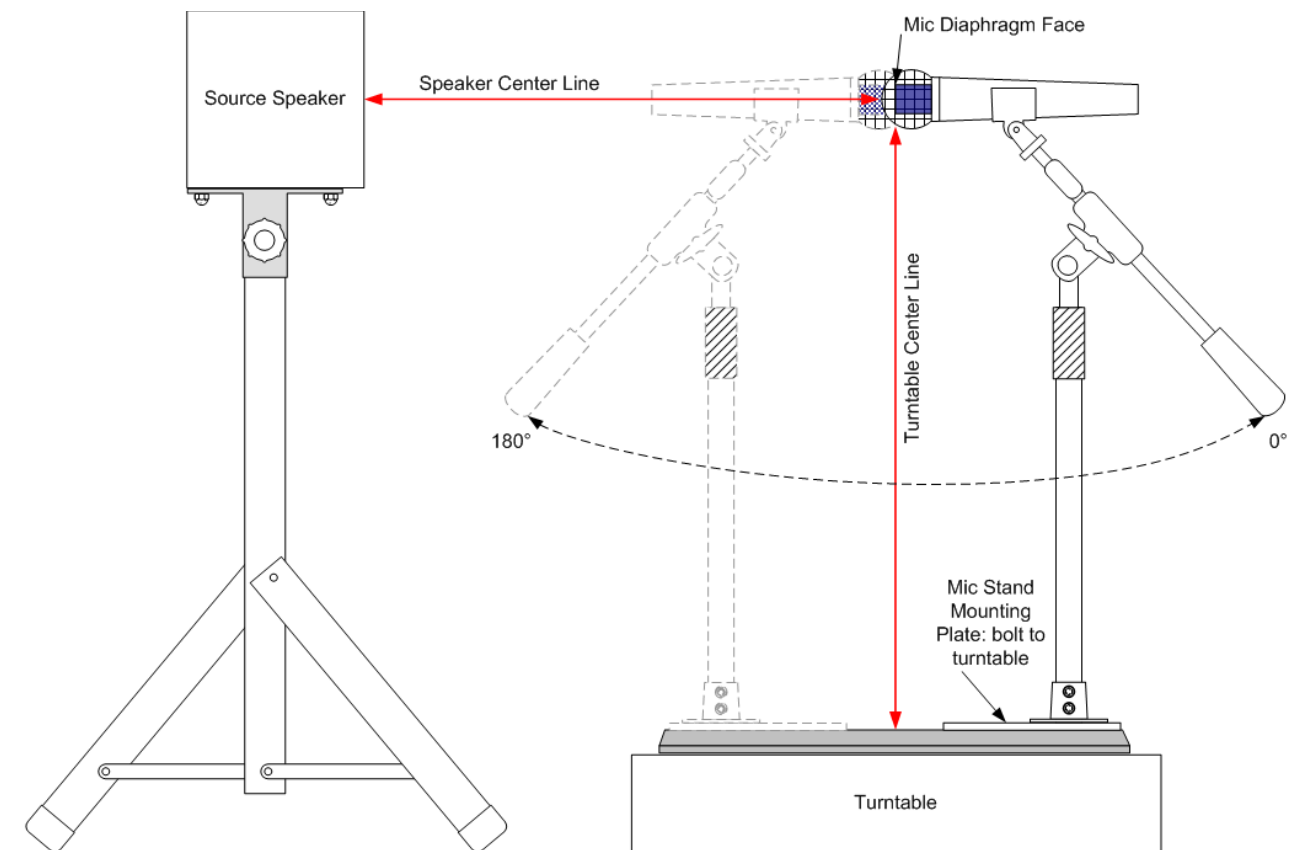
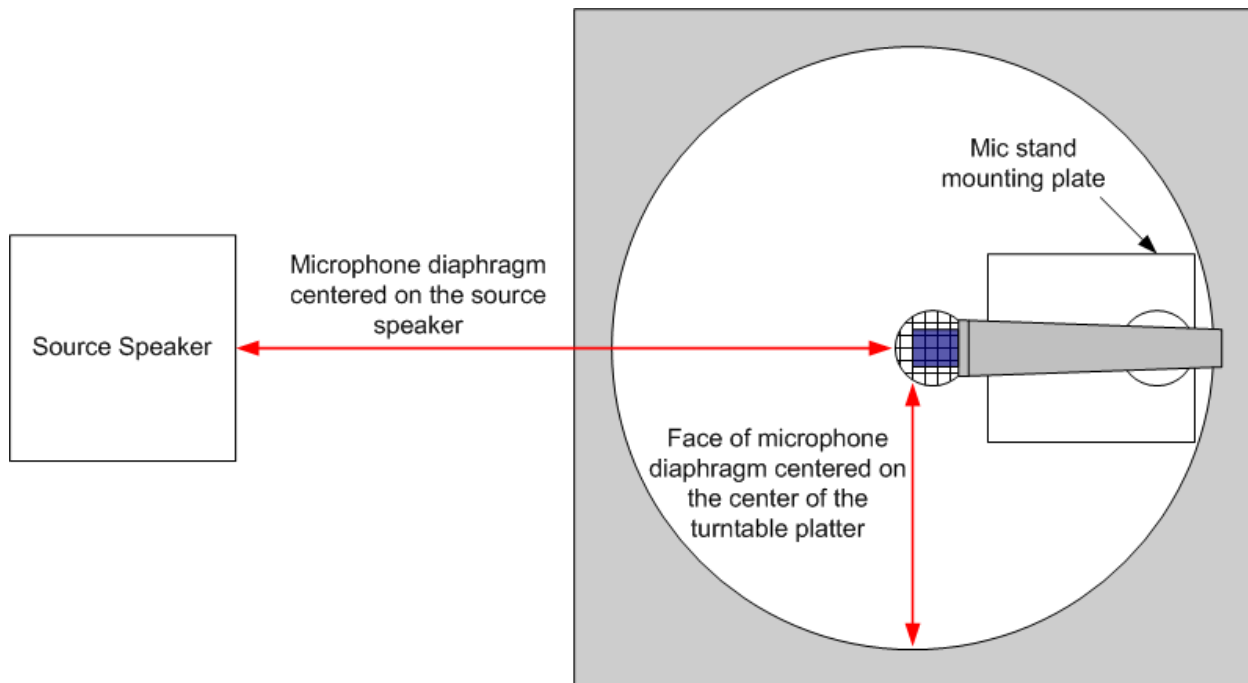

Figure 3: Polar Plot Setup
Figure 4: Polar Plot Alignment
- See **Figure 3** and **Figure 4**
- Make sure the boom arm of the mic stand does not hit any hardware as the turntable rotates. See **Figure 3**